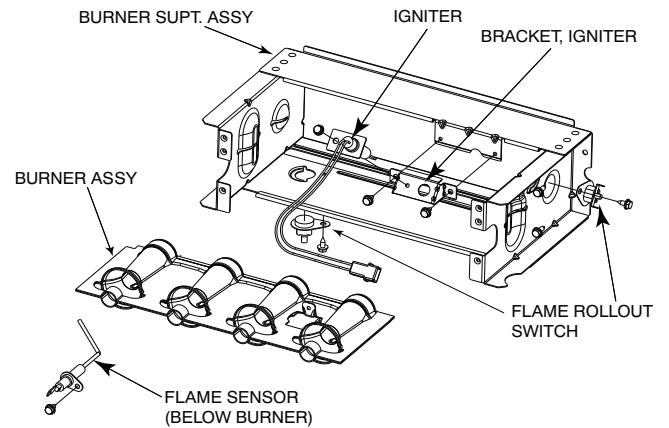
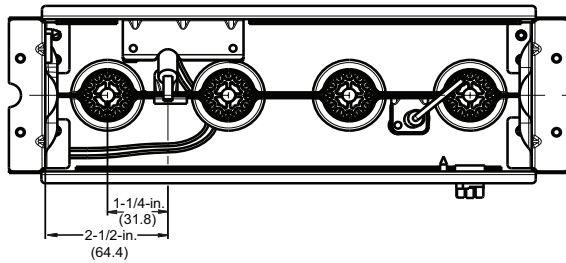
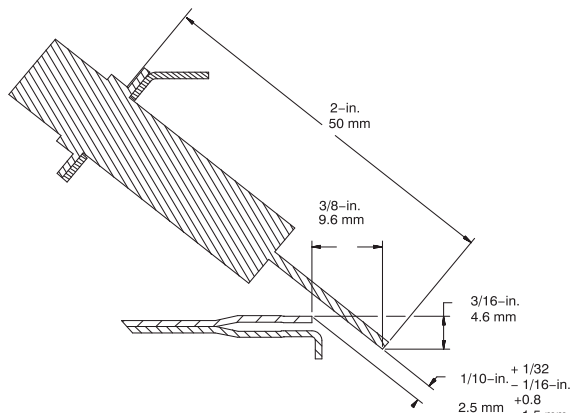

Fig. 65 – Burner Assembly
Fig. 66 – Igniter Position - Top View
Fig. 67 – Igniter Position - Side View
Refer to Fig. 65.
8. Check the igniter alignment. See Fig. 65, Fig. 66, and Fig. 67.
The igniter does **NOT** require annual inspection. Check igniter resistance before removal. See Fig. 65, Fig. 66, and Fig. 67.
- a. Using a 1/4-in. driver, remove the two screws securing the igniter mounting bracket to the burner assembly See Fig. 65.
6. To replace igniter and bracket assembly, reverse items 5a through 5d.
7. Reconnect igniter harness to the igniter, dressing the igniter wires to ensure there is no tension on the igniter itself. See Fig. 65.